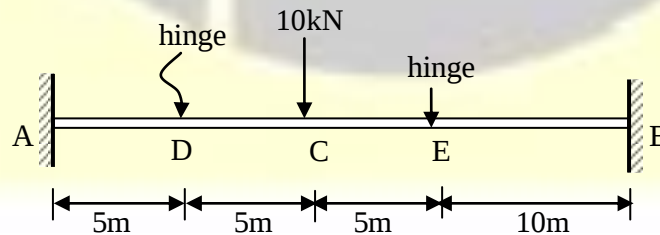

Figure 4
2. (a) Find the deflection at C for the beam as shown in Figure 4. $EI = \text{constant}$. Use conjugate beam method.